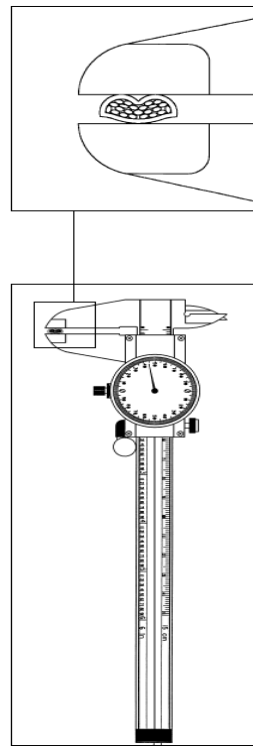

Figure 18
5. To check for extrusion (anvil flash) use the caliper (Figure 18) to measure the crimp height. If the caliper measurement is greater than the crimp micrometer measurement the extrusion is not acceptable.